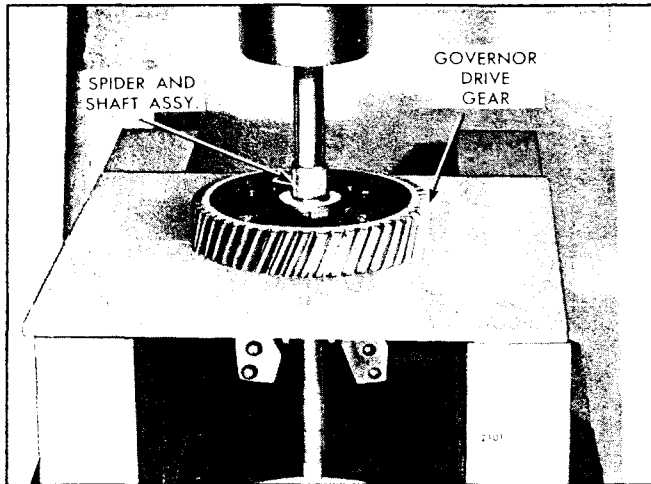

Fig. 3 - Removing Drive Gear from Spider and Shaft Assembly
1. Remove the countersunk screw (44) retaining the bearing housing (43) to the governor body (1) and withdraw the bearing housing from the governor. The governor drive gear (46), spider and shaft assembly (10), riser (6) and three piece thrust bearing (5) will be removed with the bearing housing.
2. Remove the outer race and the ball assembly (5) from the riser (6).
3. Remove the riser (6) from the spider and shaft assembly (10).
4. If necessary, carefully support the lower side of the inner race of the thrust bearing (5) in an arbor press and gently press the riser (6) from the inner race.
5. If required, remove the hair pin clips or retainer rings (9) that secure the flyweights (7) on the supporting pins (8). Then gently tap out the supporting pins with a 1/8" punch and remove the flyweights.
6. Remove the drive gear retaining nut (53) from the shaft and place the drive gear (46), bearing housing (43), and spider and shaft assembly (10) in an arbor press, using split plates as illustrated in Fig. 3. Then press the drive gear from the shaft with a brass rod. Remove the drive key (52) from the shaft.
7. Remove the gear spacer (45) from the shaft (10).
8. Remove the internal snap ring (11) which retains the bearing (12) in the bearing housing (43). Then separate the bearing housing from the bearing.
9. Support the inner race of the bearing (12) on split plates in an arbor press, with the drive gear end of the spider and shaft assembly (10) up. Then press the shaft from the bearing.
10. Remove the speed adjusting spring (39) by removing the eyebolt (35) from the governor speed control lever (49). The spring can then be slipped from the eyebolt and the rocker shaft lever (27).
11. Remove the roll pin (25) retaining the speed adjusting bracket (30) to the governor speed adjusting shaft (32).
12. Remove the snap ring (18) retaining the speed adjusting shaft (32) to the governor body. Then remove the speed adjusting shaft, tapping the shaft, if necessary, to remove it from the speed adjusting bracket (30).
13. If desired, remove the idle (36) and maximum (37) speed adjusting screws from the speed adjusting bracket.
14. Remove the speed control lever (49) by driving out the roll pin and tapping the shaft from the lever.
15. If desired, remove the buffer screw (50) from the governor body.
16. Remove the operating fork (3) and the buffer spring (42) by removing the two retaining bolts (4) and lock washers.